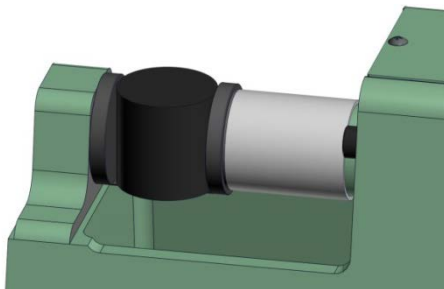

Figure 5.2.4
4. Toggle and hold the Motor Start Switch to the left to begin the specimen loading process. Continue to load the specimen until it breaks. (See Figure 5.2.4).
6. After the specimen breaks, the red Pressure Indicator Follower of the pressure gauge will display the maximum splitting strength (σ_s in N/cm^2). Remove the specimen from the Universal Strength Machine. If using the Low Pressure Gauge, Model PNM, the maximum indicated value on the middle scale is the splitting strength (σ_{SP} in N/cm^2). If using the High Pressure Gauge, Model PHM, the maximum indicated value multiplied by 10 is the splitting strength (σ_{SP} in N/cm^2). See Figure 5.2.4 for test procedure.